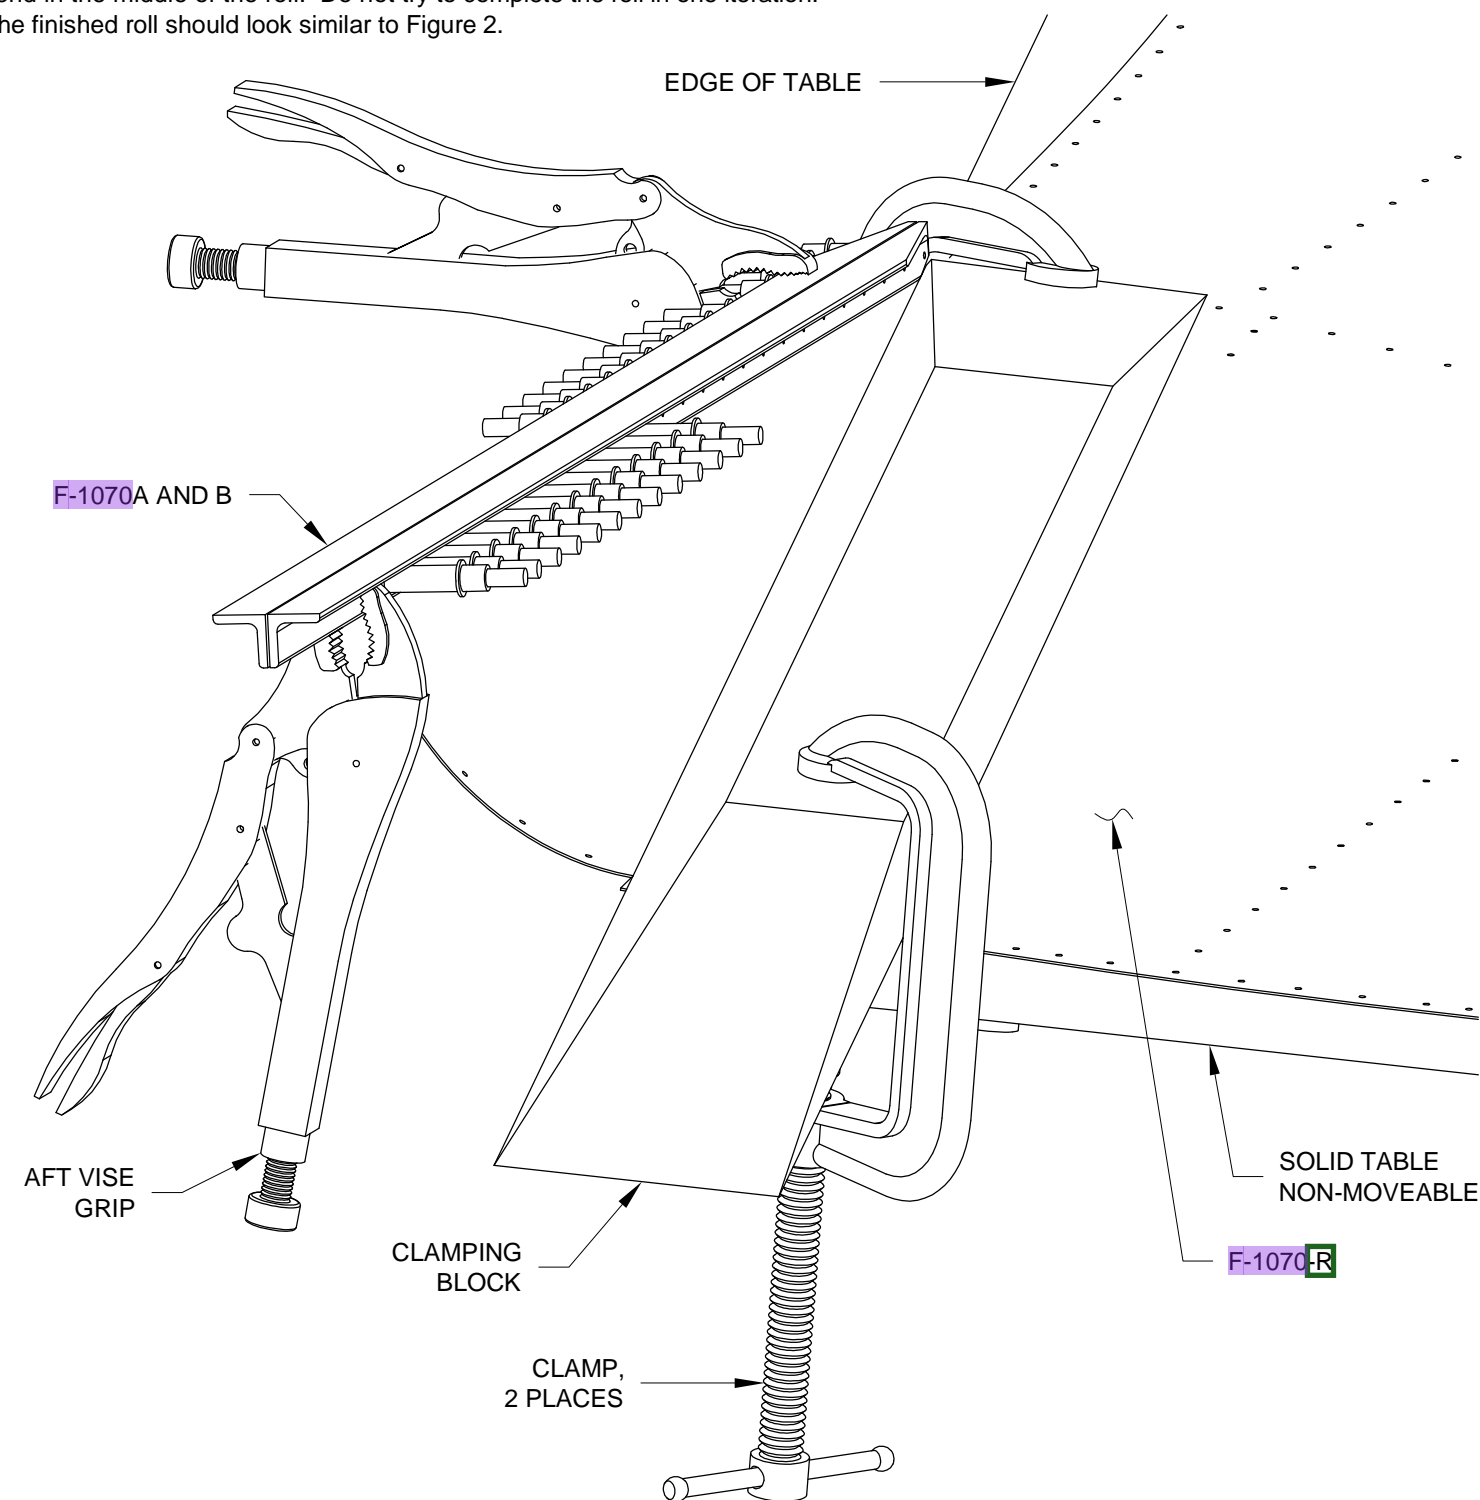

FIGURE 1: ROLLING THE MID SIDE SKIN
Step 1: Align the "Start of Roll Line" (see Page 29-4, Figure 3) on the F-1070R Mid Side Skin with the edge of a table. Align the Clamping Block with the "Start of Roll Line", then clamp it and the mid side skin to the table. As shown in Figure 1, cleco the F-1070A and B Roll Construction Angles to the mid side skin, and clamp two vise grips onto either end of the roll construction angles. Double check that you are about to bend the skin in the correct direction; the outboard face of the skin should be down against the table with the inboard face up.